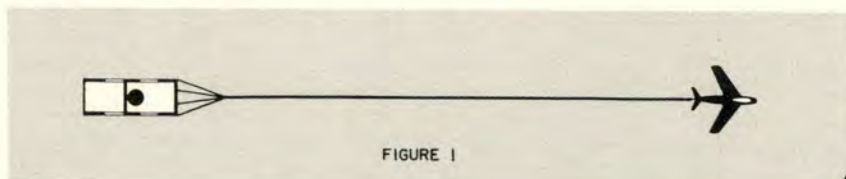

FIGURE 1
- Lay out the target and tow cable in a straight line behind the aircraft for "snake-off" rather than using the 180-degree "snatch-off" method. There is less damage to the cable, harness and target with the "snake-off" method, it eliminates whipping the target experienced with the "snatch-off" method. (See Figure 1)